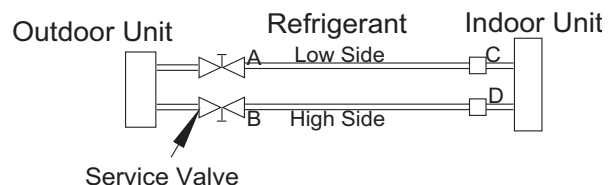

Fig. 18 Service Valve
- 1 Completely the tighten flare nuts A, B, C, D, connect the manifold gage charge hose to a charge port of the low side service valve (see Fig. 18).